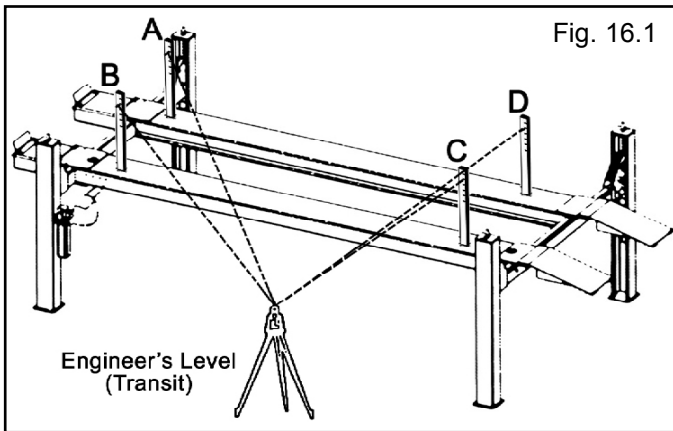

Fig. 16.1
4. Place a Level target on the right/front corner of the runway. (See Fig. 16.1)
5. Beginning with "A" position, sight the level to the target and mark the number or the graduation on the inch scale of the target that aligns to the cross hairs of the Level, (See Fig. 16.1)
6. Next, move the target and place it at point "B" on the runway. (See Fig. 16.1)
8. Adjust the adjustment nut on the safety ladder bar at the top of the Column at "B" until the cross hair of the Level align to reference mark on the target scale. (See Fig. 16.1)
9. Repeat steps locating the target assembly at points "C" and "D" and adjusting safety ladders at each corresponding Column until the reference mark on the target scale is on the cross hair of the Level. The runways are now level at all four points. (See Fig. 16.1)